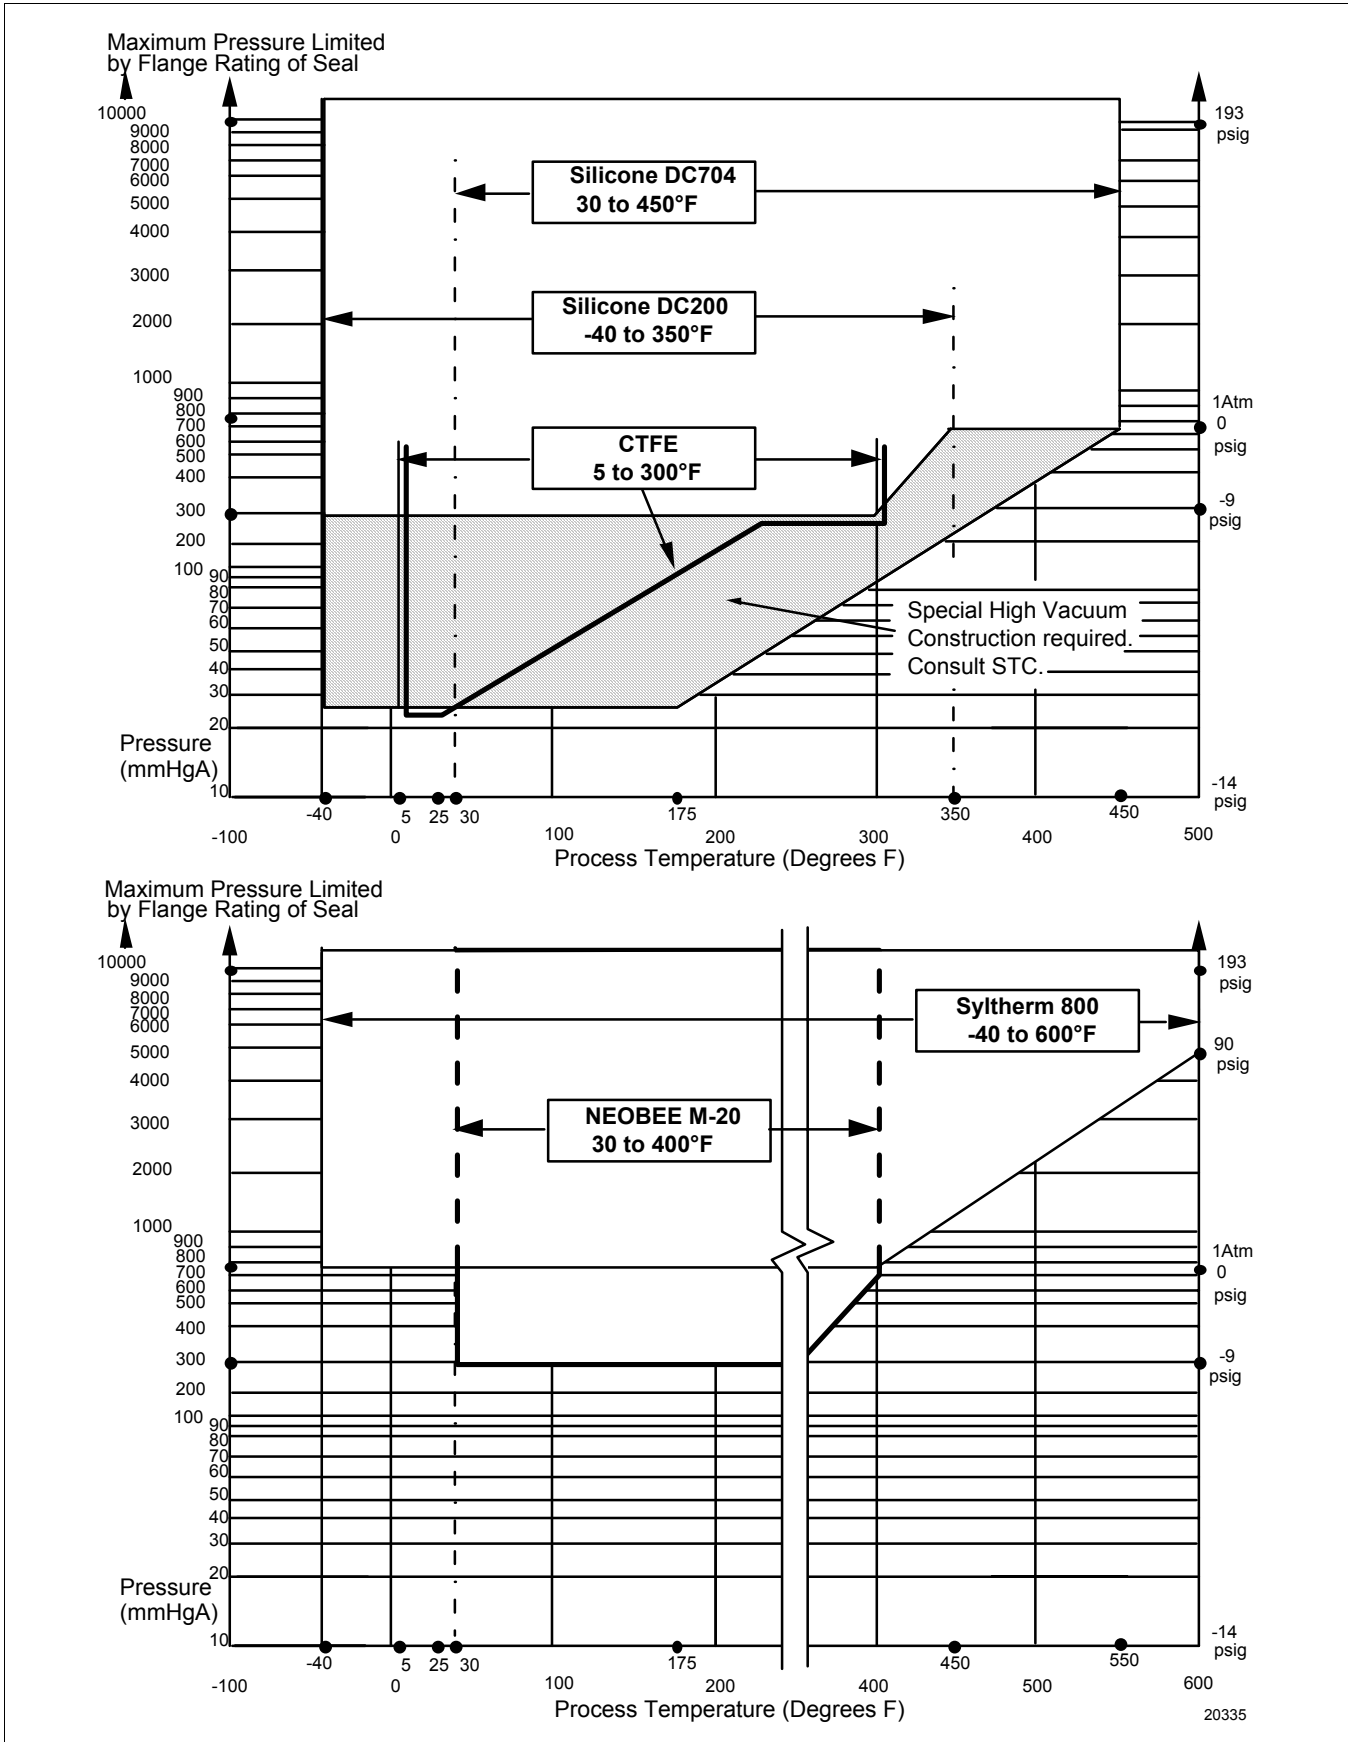

Figure 2—ST 3000 Remote Seals operable limits for pressure versus temperature
* See Figure 2 for Fill Fluid temperature limits.